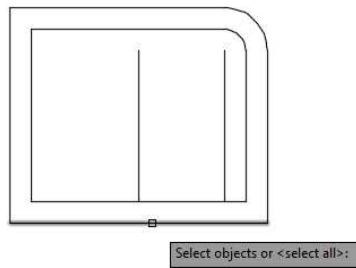

FIGURE 2.30: Selecting a line to be a boundary edge
2. Pick the very bottom horizontal line (see Figure 2.30) and then press ↵.